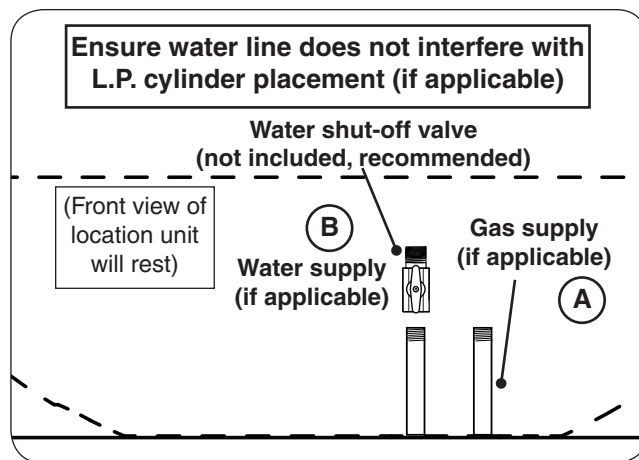

Fig. 21-1 Route gas and water supply (if applicable)
1. Route the gas supply into the area that the unit will rest over (see Fig. 21-1, A).
1. Plumb the water supply into the area that the unit will rest over (see Fig. 21-1, B).
**Note:** It is recommended that a water shut-off valve (not included) be attached to the water supply line. It can be installed remotely or at the end of the water supply line. See Fig. 21-1, B for an example.